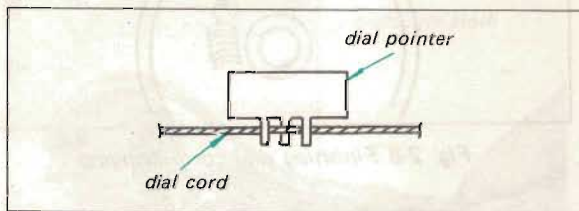
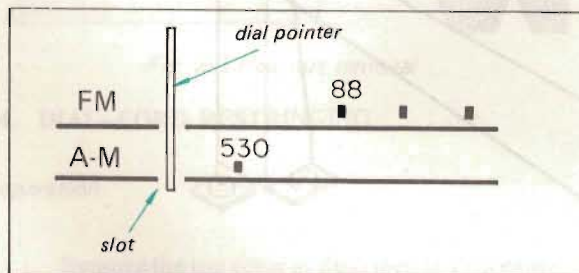

Fig. 2-9 Dial pointer installation
Fig. 2-10 Mechanical dial calibration
1. Put the dial pointer on the cord as shown in Fig. 2-9 and move it to a position where the pointer coincides with the left slot on the dial scale as shown in Fig. 2-10, when the tuning capacitor is set to the maximum capacitance position.